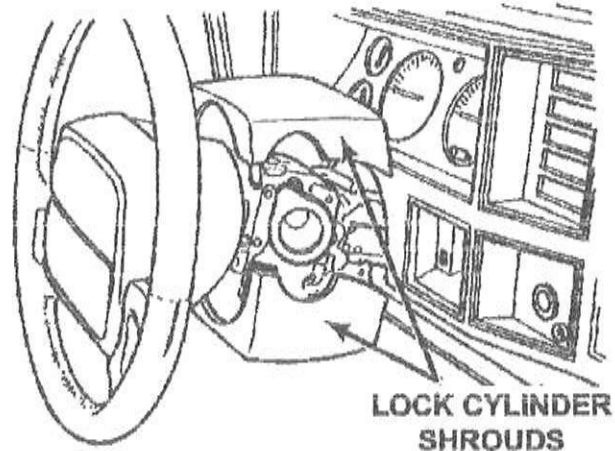

Figure 13
15. Remove the steering column ignition key lock cylinder housing upper and lower shrouds (Figure 13).
33. Install the steering column upper and lower shrouds (Figure 13).